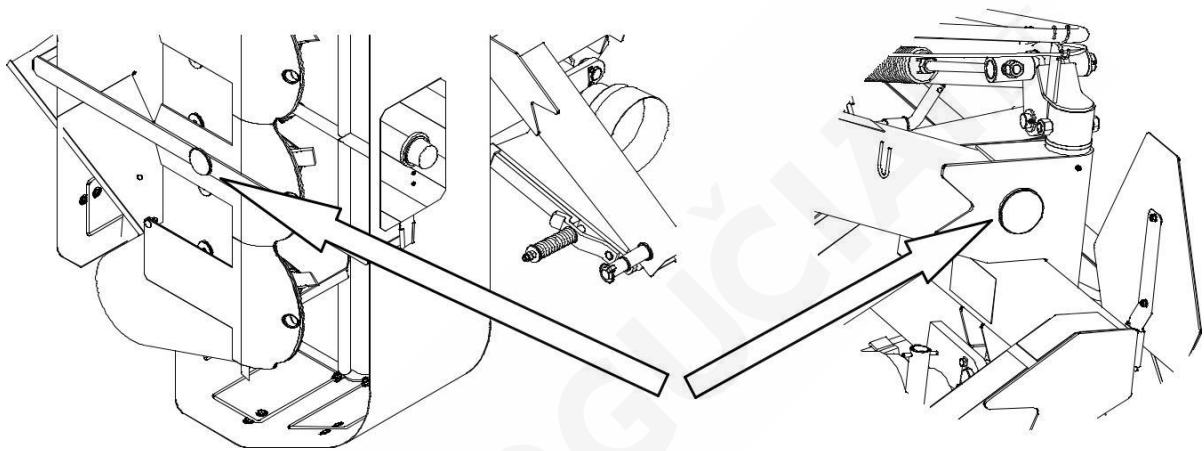

Fig. 6 Location of yellow reflex reflectors
When traveling on public roads, a portable light installation, which can be ordered from the Manufacturer or other points of sale of agricultural machinery, must be installed. Portable light installation consists of two portable warning signboards marked with stripes of alternating white and red colour, each with the light device (front white position light and rear red light). In addition, the mower must be equipped with a warning triangular for low-speed vehicles mounted in the holder located at the back of the machine, on the left side of the mower suspension frame. The mower should be also equipped with 2 yellow reflex reflectors mounted as shown in Fig. 6.
- mount triangle for low-speed vehicles into the support on the back of the mower on the left side of the suspension frame (Fig. 6),
- Screw the lighting bracket (Fig. 6) to the cutter bar on the second disc using a retaining screw.